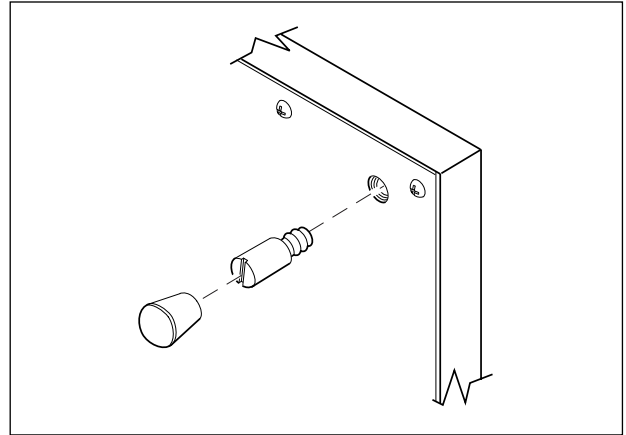

Figure 3. Installing Legs.
2. Install metal leg into each corner hole on base. Tighten securely. Place a rubber foot onto each leg. See Figure 3.